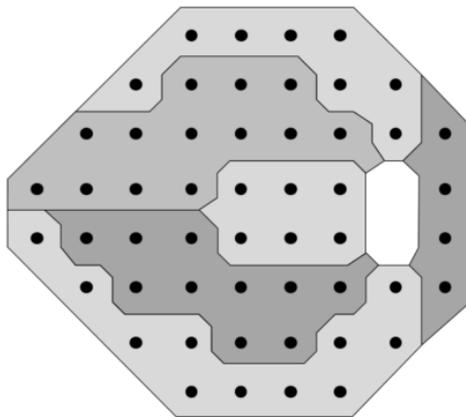

Fig. 33 – Stimuli of the 24-2 pattern grouped in clusters⁶
6. Mean Deviation (MD) and Pattern Standard Deviation (PSD) indices
7. Cluster MDs (dB) (see clusters identification in Fig. 33)